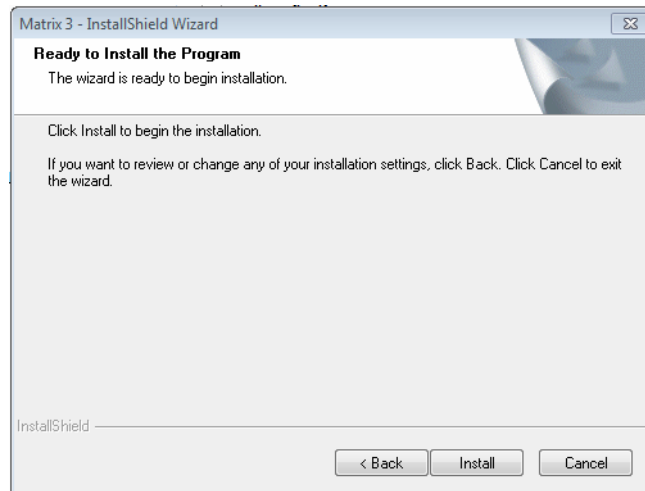

FIG. 7
8. Click NEXT to continue software installation and advance to the InstallShield Wizard for Matrix3 (FIG. 7). Click The BACK button to return to a previous installation screen or CANCEL to end the software installation.
9. Click INSTALL. The InstallShield Wizard for Matrix3 begins the installation (FIG. 7).